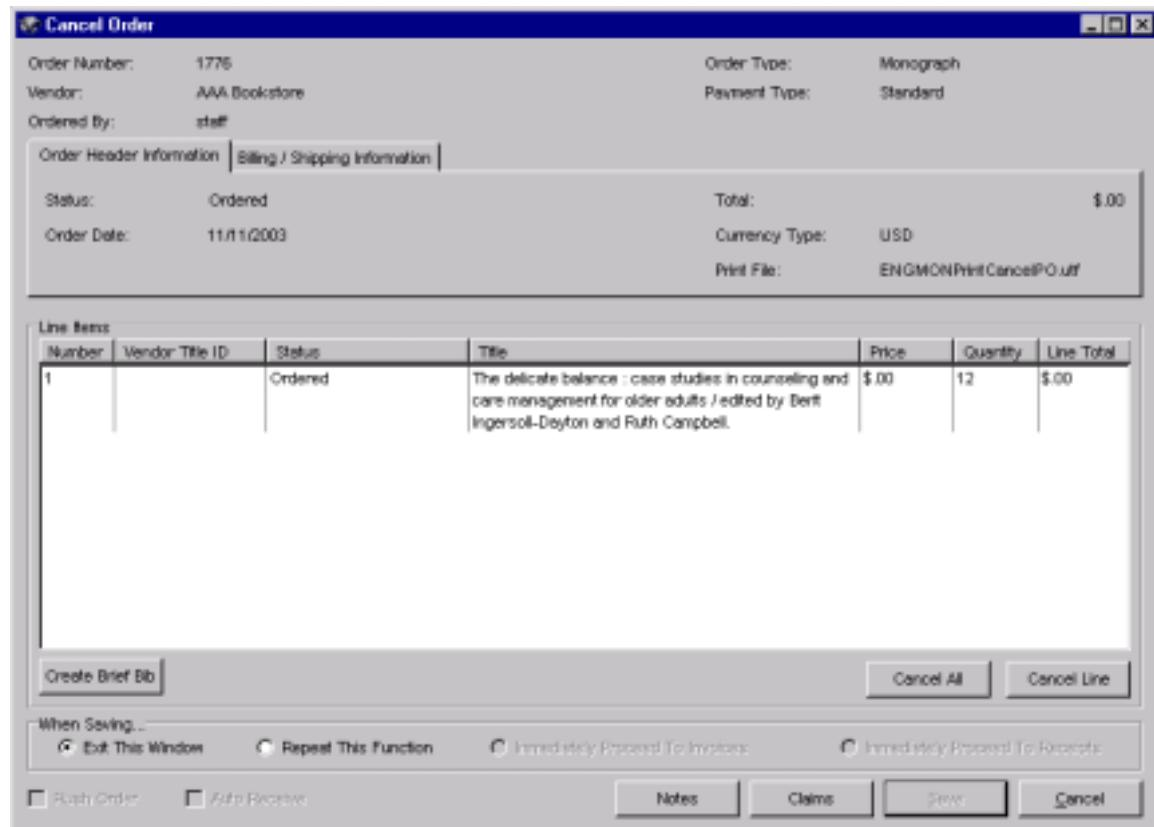

Figure 3-17. Cancel Order Window
Otherwise, the Cancel Order window appears (Figure 3-17).
1. On the Cancel Order window (*Figure 3-17*), highlight the line item to be canceled.